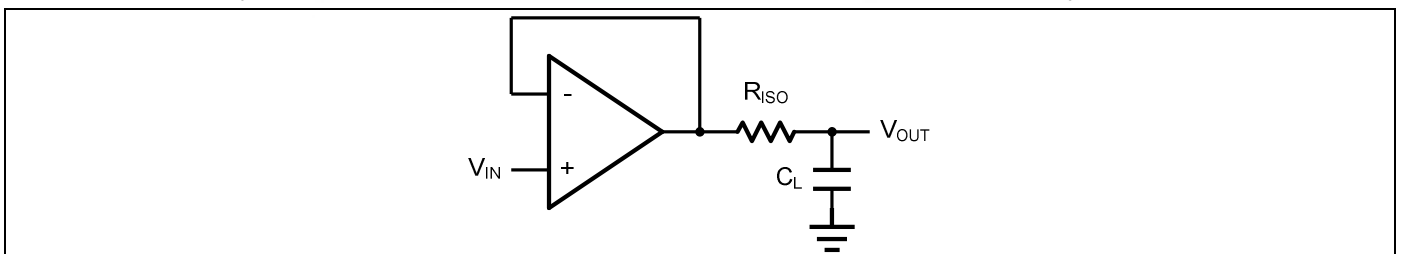
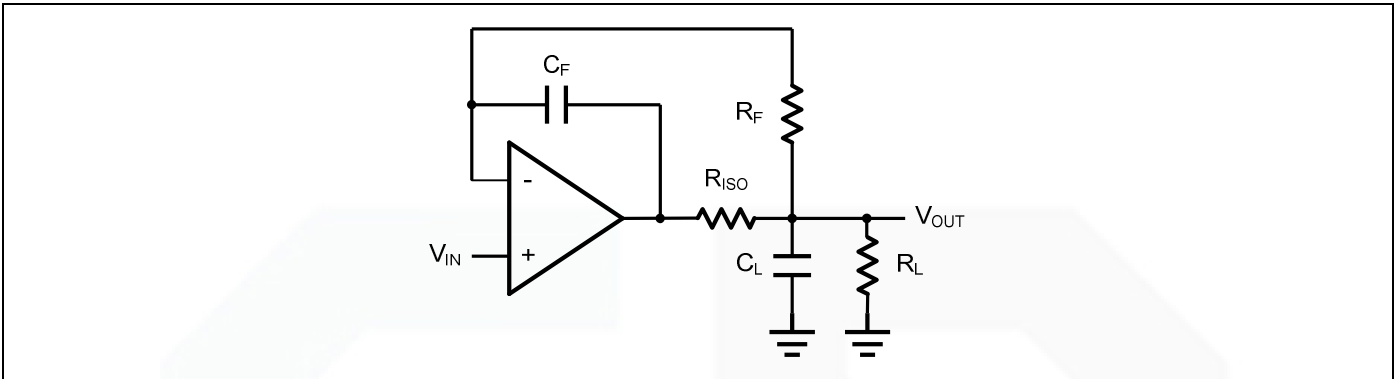

Figure 2. Indirectly Driving a Capacitive Load Using Isolation Resistor
Figure 3. Indirectly Driving a Capacitive Load with DC Accuracy
The GS655x family is optimized for bandwidth and speed, not for driving capacitive loads. Output capacitance will create a pole in the amplifier's feedback path, leading to excessive peaking and potential oscillation. If dealing with load capacitance is a requirement of the application, the two strategies to consider are (1) using a small resistor in series with the amplifier's output and the load capacitance and (2) reducing the bandwidth of the amplifier's feedback loop by increasing the overall noise gain. Figure 2. shows a unity gain follower using the series resistor strategy. The resistor isolates the output from the capacitance and, more importantly, creates a zero in the feedback path that compensates for the pole created by the output capacitance.
The circuit in Figure 3 is an improvement to the one in Figure 2. R_F provides the DC accuracy by feed-forward the V_{IN} to R_L . C_F and R_{ISO} serve to counteract the loss of phase margin by feeding the high frequency component of the output signal back to the amplifier's inverting input, thereby preserving the phase margin in the overall feedback loop. Capacitive drive can be increased by increasing the value of C_F . This in turn will slow down the pulse response.